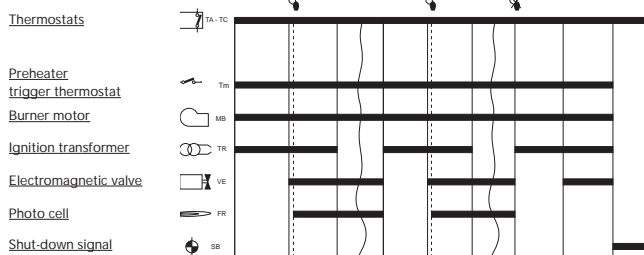

fig. 9
- Operation will start according to Figs. 10a and 10b and the diagram in Fig. 9: